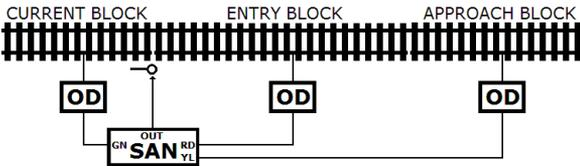

Figure 5
Figure 5 shows an SGA that drives a signal for traffic from the left to the right at the boundary between the first and second blocks. The exit of the first block is where the signal is located, and this block is labelled *CURRENT BLOCK*. A train approaching this signal uses its indication to determine if it may enter the second block, labelled *ENTRY BLOCK*. When the train passes the signal and is in *ENTRY BLOCK*, it will be approaching the third block, labelled *APPROACH BLOCK*.
**Entry:** For the block immediately past the signal (*ENTRY BLOCK* in Figure 5)
**Approach:** For the block past the next signal (*APPROACH BLOCK* in Figure 5)